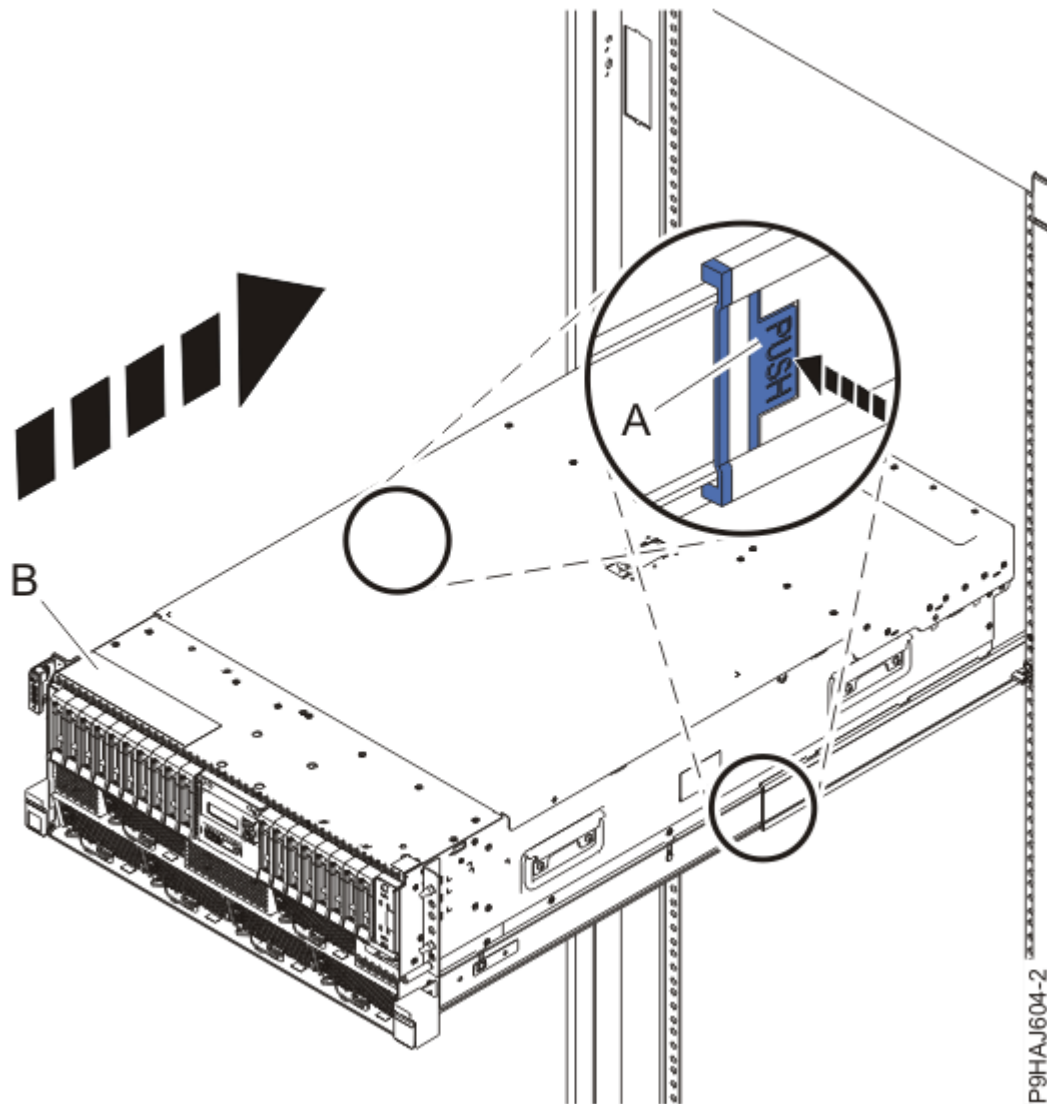

Figure 17. Placing the system into the operating position
3. For a rack-mounted system, unlock the blue rail safety latches **(A)** as shown in Figure 17 on page 20 by pushing them inward.